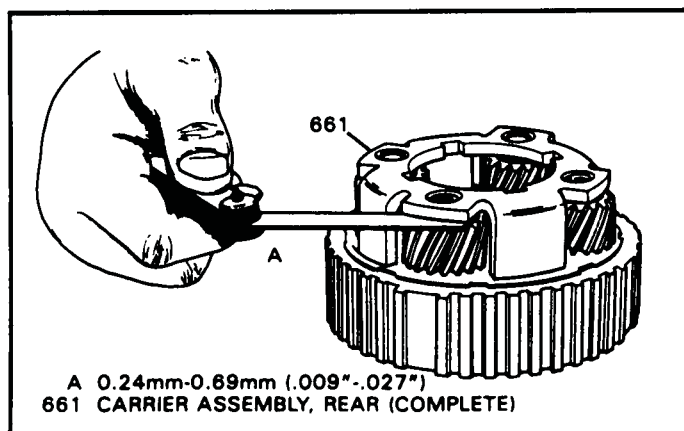
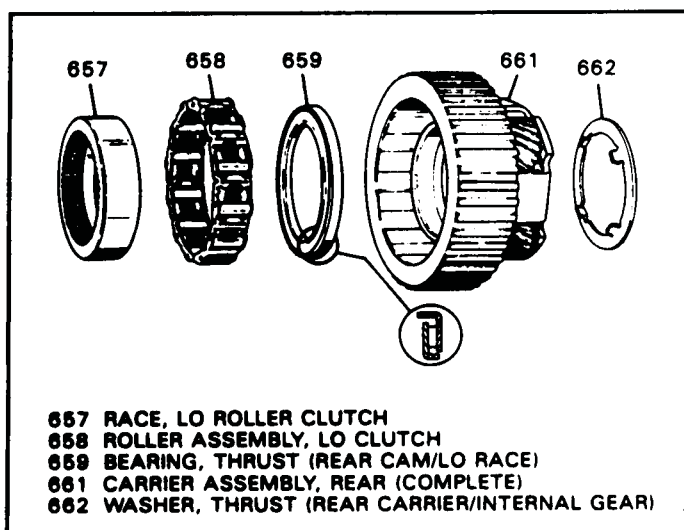

Figure 68
Figure 69
13. Check pinion end play on planetary carrier with feeler gage, as shown in Figure 68. End play should be .009" to .027".
14. Install thrust bearing (663) into the ring gear, with inside diameter of race against ring gear.
15. Install inside tanged thrust washer on back side of planetary carrier and retain with "Trans-Jel" as shown in Figure 69.
16. Install thrust bearing (659) into the carrier, in the direction shown in Figure 69.
17. Install all rollers into the Lo Roller Clutch, by compressing spring with forefinger and install roller (See Figure 69).
18. Install completed roller clutch assembly in the carrier (See Figure 69).
19. Install the Lo roller clutch inner race, with the splines facing up, as shown in Figure 69.